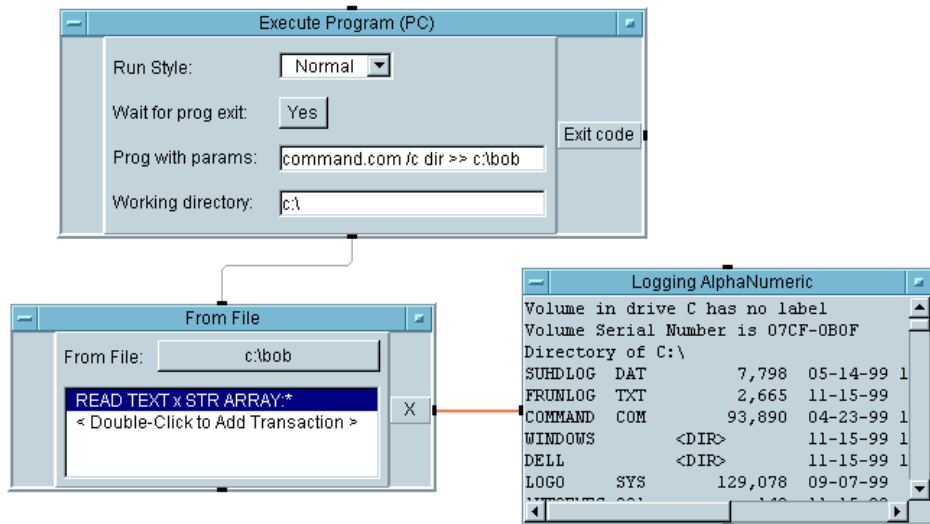

Figure 7-3. Listing the Files in a Directory (PC)
- c. Click on the SIZE: (10) field to toggle it to TO END: (*), then click OK. The transaction bar should now read: READ TEXT x STR ARRAY: * . This transaction will read the contents of the bob file.
5. Run the program. It should look like Figure 7-3.